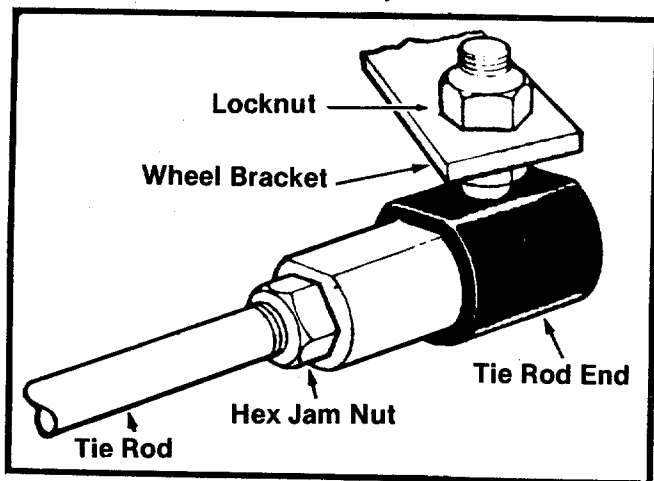

FIGURE 22
The caster (forward slant of the kingpin) and the camber (tilt of the wheels out at the top) requires no adjustment. Automotive steering principles have been used to determine the caster and camber on the tractor. The front wheels should toe-in 1/8 inch. To adjust the toe-in, loosen the hex jam nut, remove the elastic locknut, drop the tie-rod end out of the hole in the steering arm and screw the tie-rod end in or out to make the adjustment. The distance "B" must be less than "A" by 1/8 inch. See figures 22 and 23.
1. Remove the elastic locknut and drop the tie rod from the wheel bracket. See figure 22.
2. Loosen the hex jam nut on the tie rod. See figure 22.